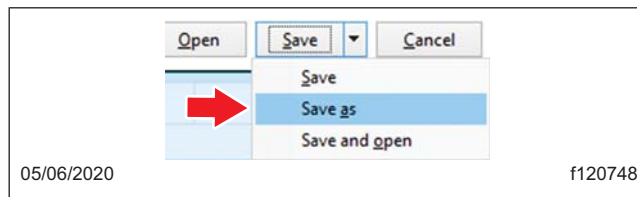

Fig. 17, Choosing Save As
- Choose 'Save As' from the drop-down list shown in Fig. 17.